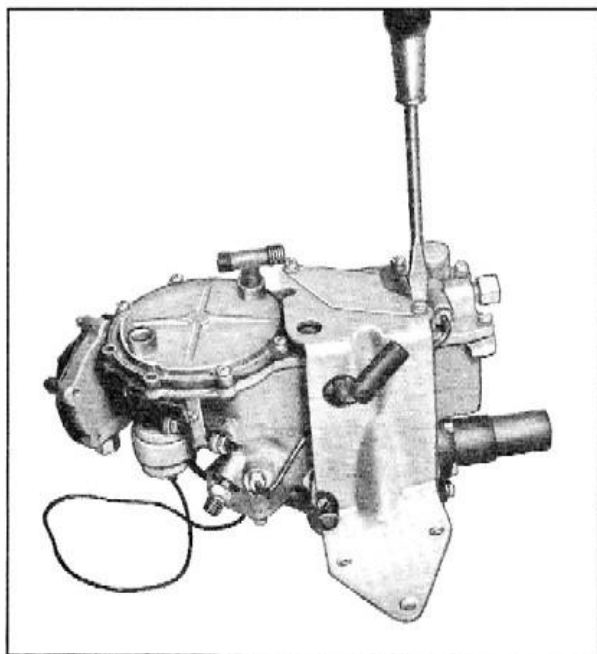

Fig. 16 Removing Fuel Meter Mounting Bracket
1. Remove fuel meter mounting bracket by removing four attaching screws, Fig. 16. Be careful not to lose the spacers used at the bowl cover attachment.